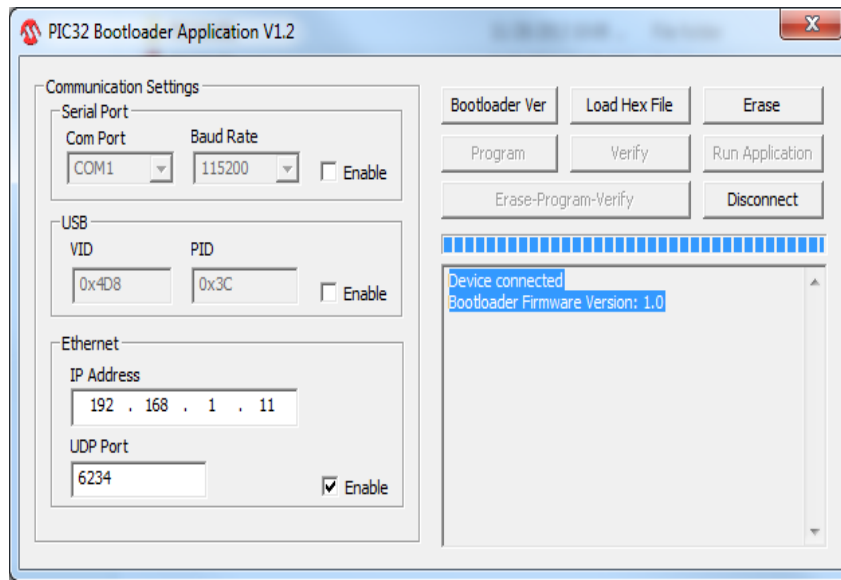

Figure 55: Bootloader Software
1. When connecting to an instrument with outdated/incorrect firmware, the Bootloader Software pops up automatically (Figure 55)